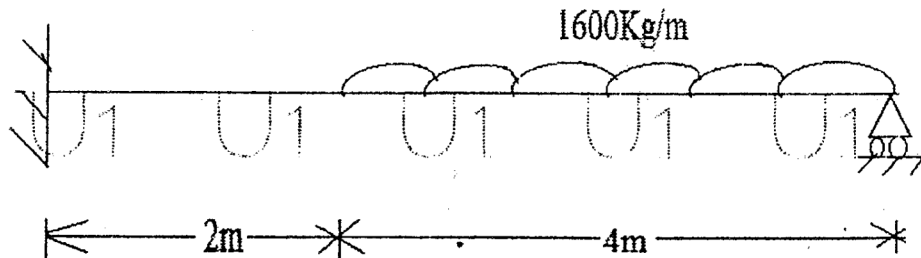

Figure: 4
6. Analyse the propped cantilever shown in Figure 4. During loading the fixed end support is rotated 0.002 radians in anti-clockwise direction. Draw BMD. [10]